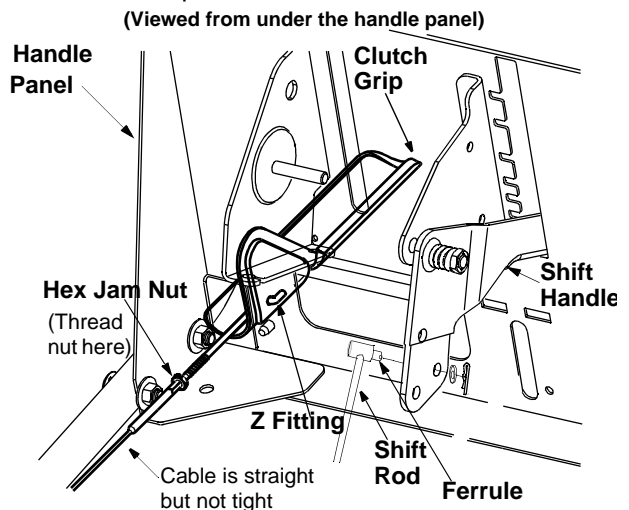

Figure 12
necessary. See Figure 12. Tighten the jam nut to secure the cable when correct adjustment is reached. Reassemble the frame cover.
2. Place shift lever in sixth (6) position or fastest forward speed.
4. Rotate the ferrule up or down on the shift rod as necessary until the ferrule lines up with the upper hole in the shift lever. See Figure 12.